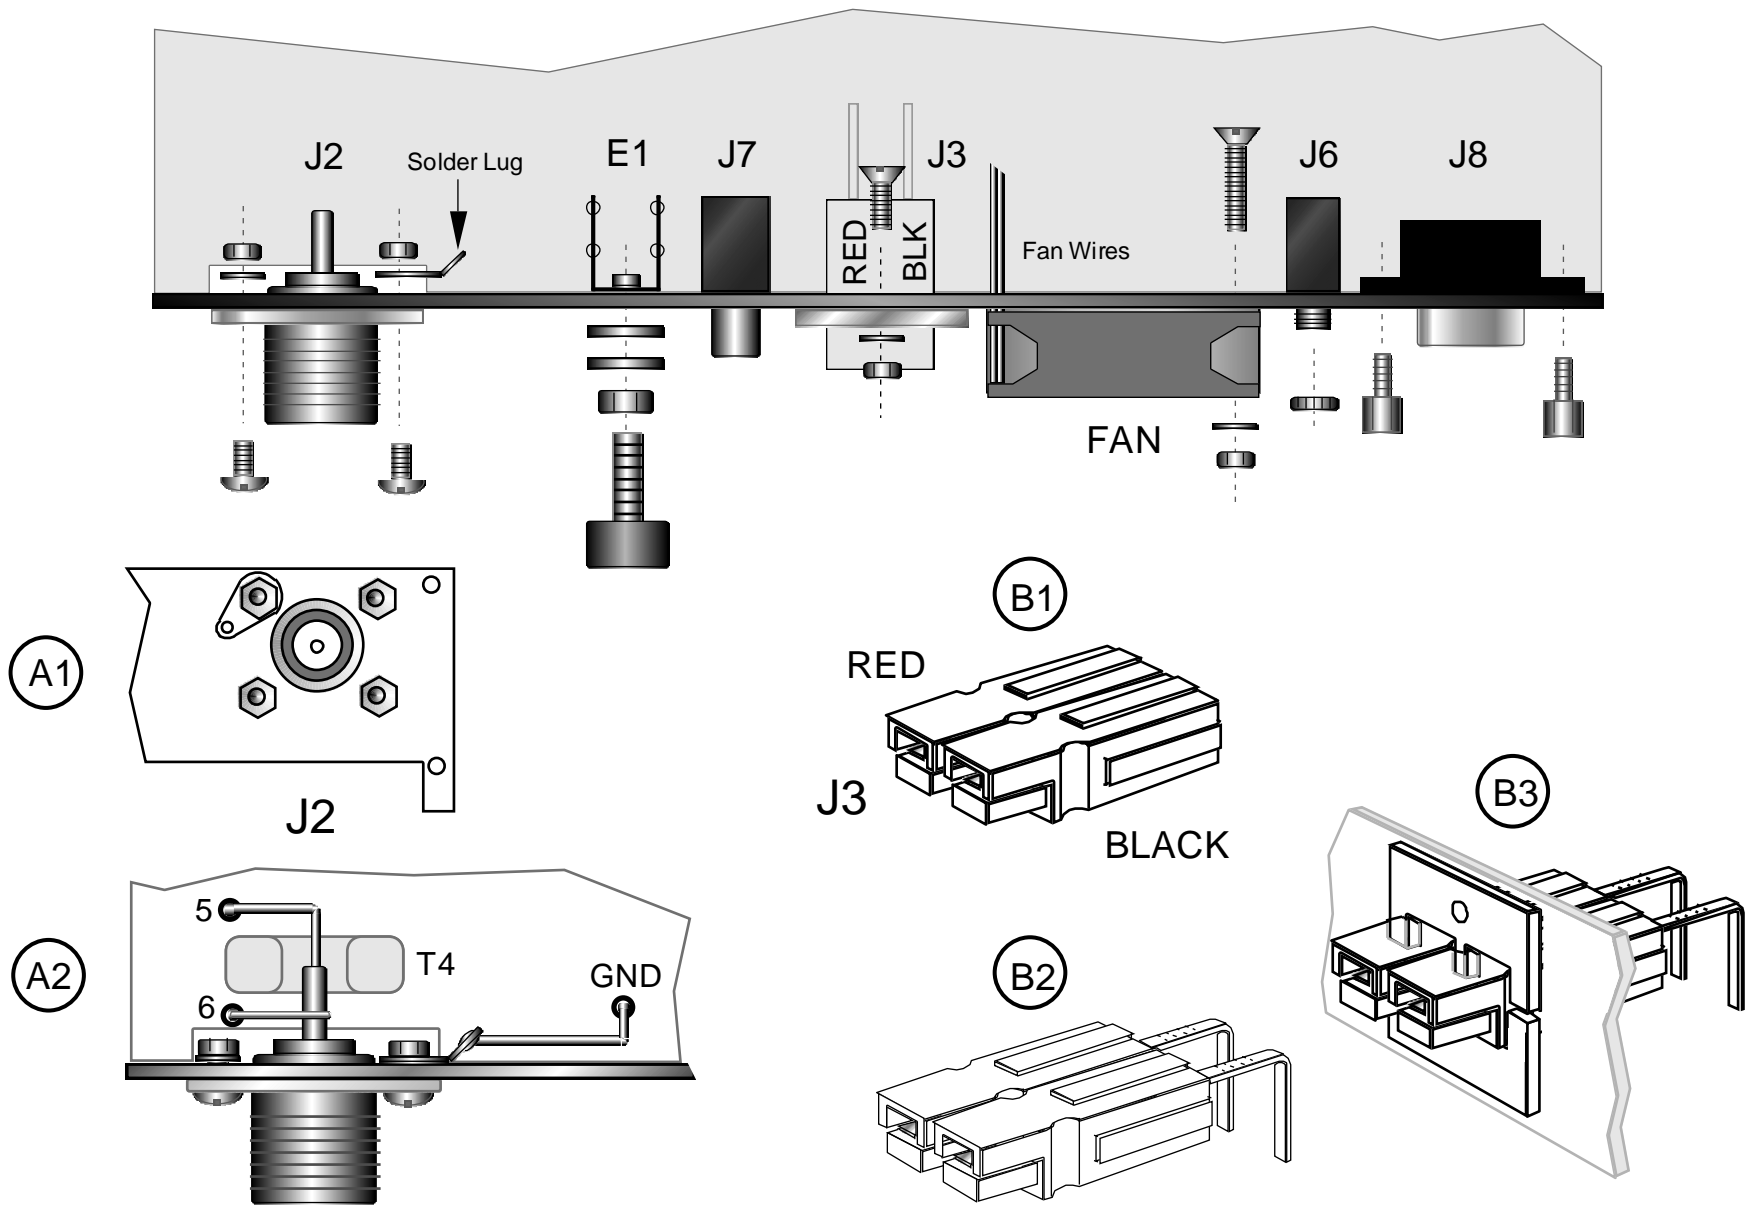

Figure 24
Figure 24 (page 33) shows the connectors and other hardware that will be attached to the rear panel in the following steps. The antenna jack (J2), DC power jack (J3), and fan will be secured to the panel first, then the rear panel assembly will be attached to the KPA100 PC board.
Place the antenna jack, J2 (SO239) in its position on the rear panel as shown in Figure 24. **The connector's square flange goes on the outside of the panel (the side with the labeling), not the inside.**
Attach J2 to the rear panel as shown in Figure 24. Use four 4-40 x 1/4" (6.4 mm) pan head screws, one solder lug, **three** #4 split lock washers, and four 4-40 nuts. As shown in Detail A1, the solder lug takes the place of one lock washer. The lug must be installed on the screw nearest the top edge of the rear panel. **Do not overtighten the hardware.**
- Locate two DC input connector housings, one red and one black. Hold the two connectors in the orientation shown in Detail B1 of Figure 24. Look closely at the sides of the connectors. Each has a small tongue on the right side, and a groove on the left.
- Use two E-shaped brackets to hold the housings in place, as shown in Detail B3 (one from above, one from below). Secure the brackets to the rear panel using two 4-40 x 1/4" (6.4 mm) flat head screws, two #4 split lock washers, and two 4-40 nuts. This hardware is shown in Figure 24 (at top).
- Solder one end of the **red** wire to the center pin of the antenna connector (J2) as shown in Figure 24, Detail A2. Remove any excess solder from the outside of the pin using desoldering braid.
- Solder J2's wires to the points indicated in Detail A2 of Figure 24. The red wire goes to T4 pin 5, black wire to the pad labeled "GND" near E1, and bare wire jumper to T4 pin 6.